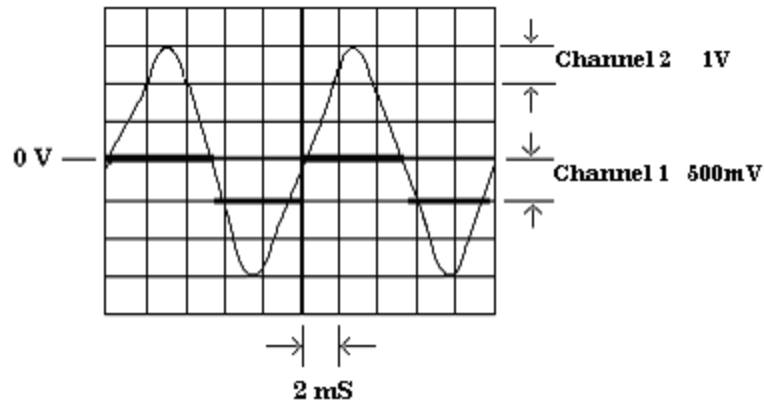

Figure 3. Remote trigger level - zero.
- (2) Set oscilloscope channel 1 for DC input coupling, $1\text{ M}\Omega$ input, 500mV/div amplitude and 2 ms/div sweep.
- (3) Turn oscilloscope channel 2 to on and set channel 2 for AC input coupling, $1\text{ M}\Omega$ input and 1 V/div amplitude.
- (4) Set oscilloscope triggering for positive slope, auto level, channel 2 source and DC coupling.
- (5) Set function generator as listed in (a) through (e) below:
- (6) Execute TI command string PF4G6S1S3A379+000*B37+000*R.
(7) Adjust oscilloscope **Vertical 1** control so that the top of TI marker output waveform on channel 1 (fig. 3) just barely intersects both positive and negative slopes of sine wave on channel 2 (fig. 3). If this intersection does not occur at $0\text{ V} \pm 35\text{ mV}$ on sine wave, as shown in fig. 3, perform **b** below.